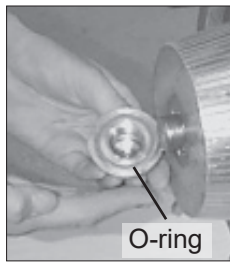

Figure 10
6. Remove the rotor retaining nut, then remove the O-ring from the nut. (See Figure 10.)